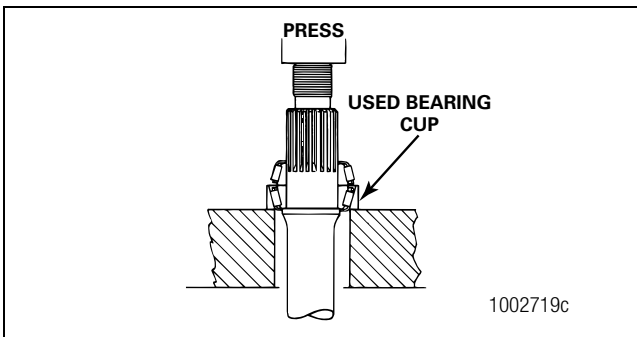

Figure 3.14
2. Place the thru-shaft into a press. Figure 3.14. The used bearing cup supports the thru-shaft.